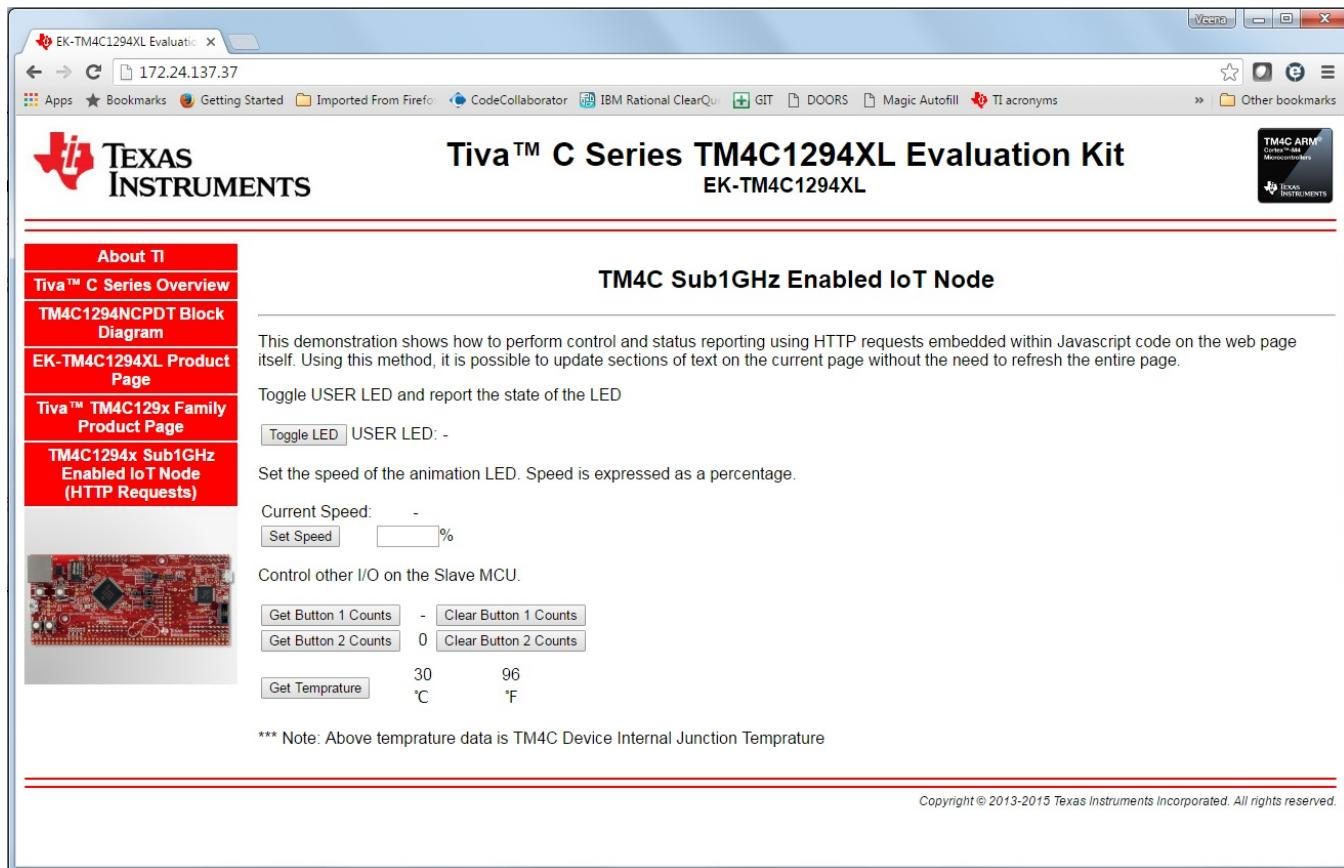

Figure 14. Demo Web Page Snapshot
7. Run Demo 4: Get Temperature (see Figure 14).